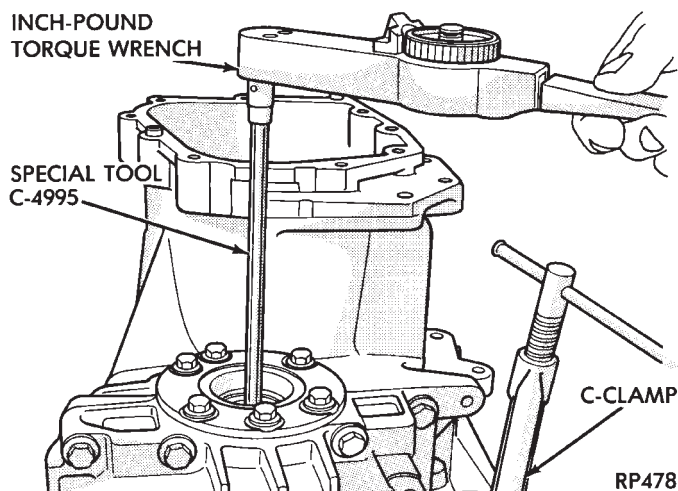

Fig. 4 Checking Differential Bearing Turning Torque
(6) The **Shim** required for proper bearing preload is the **total of the gauging shim thickness, plus end play, plus (constant) preload of 0.254mm (.010 inch)**. Combine shims, if necessary, to obtain a shim within .05mm (.002 inch) of the required shim (see Shim Chart for proper shims).
(7) Remove differential bearing retainer. Remove bearing cup and gauging shim. Properly install oil baffle. **Be sure oil baffle is not damaged.** Install shim(s) selected in step (6). Then press in the bearing cup into differential bearing retainer.
(8) Using a 1/16 inch bead of MOPAR® Gasket Maker, Loctite 518, or equivalent for gasket, install differential bearing retainer. Torque all bolts (See Tightening Reference).
(9) Using Special Tool C-4995 and an inch-pound torque wrench, check turning torque of the differential assembly in clockwise and counterclockwise directions (Fig. 4). **The turning torque should be 9 to 14 in. lbs. for new bearings or a minimum of 6**